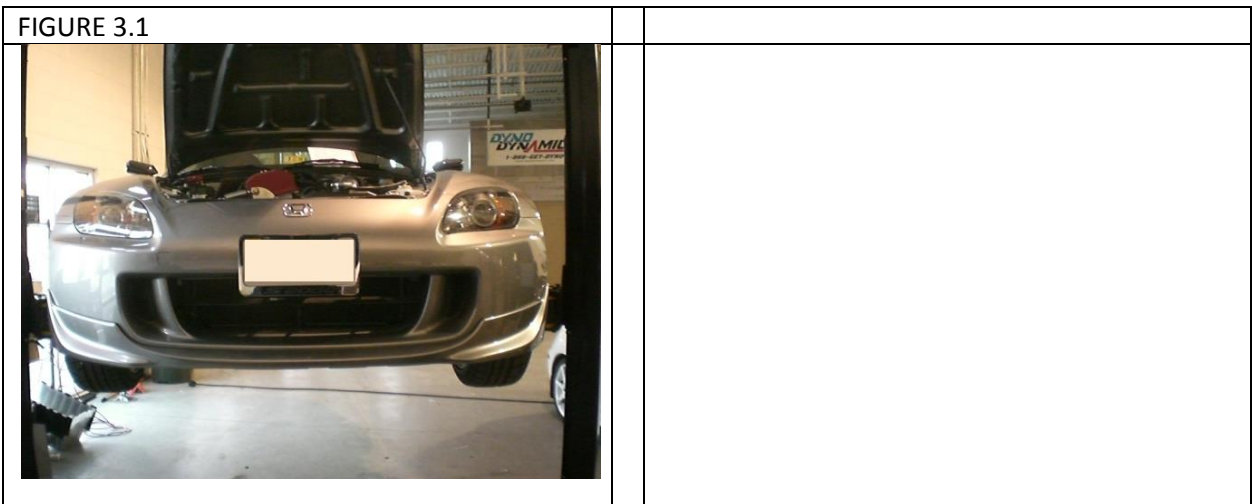

FIGURE 1.1
2. Jack up the vehicle to a workable height and secure vehicle with jack stands. See FIGURE 1.1